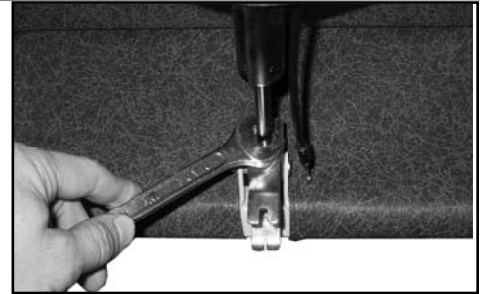

FIG. 1
1. Lock Casters (page 8). Remove cable from Operator and loosen 11/16" hex nut on top of Operator. **(FIG.1)**